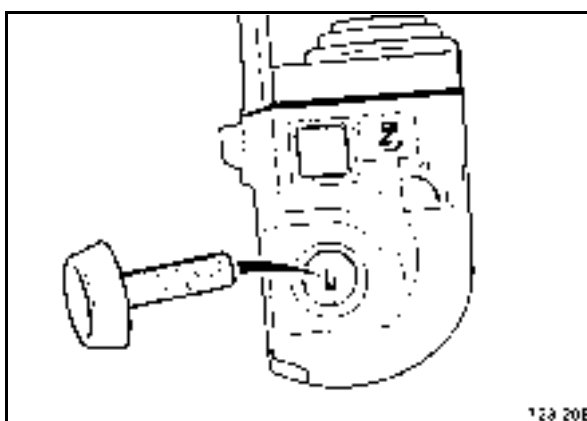

Fig. 58
- Pull off the ignition key (Fig. 58) and store it in a safe place.